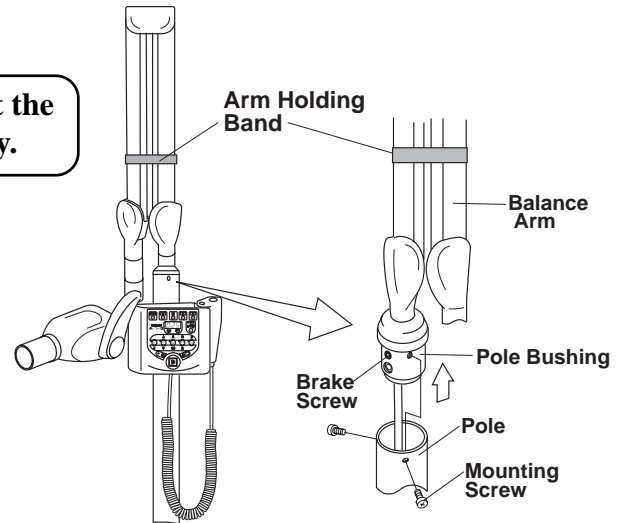

Fig.4-5 Balance Arm Swing Friction Adjustment for FM
B. BALNNE ARM SWING FRICTION ADJUSTMENT FOR FM TYPE (Fig.4-5)